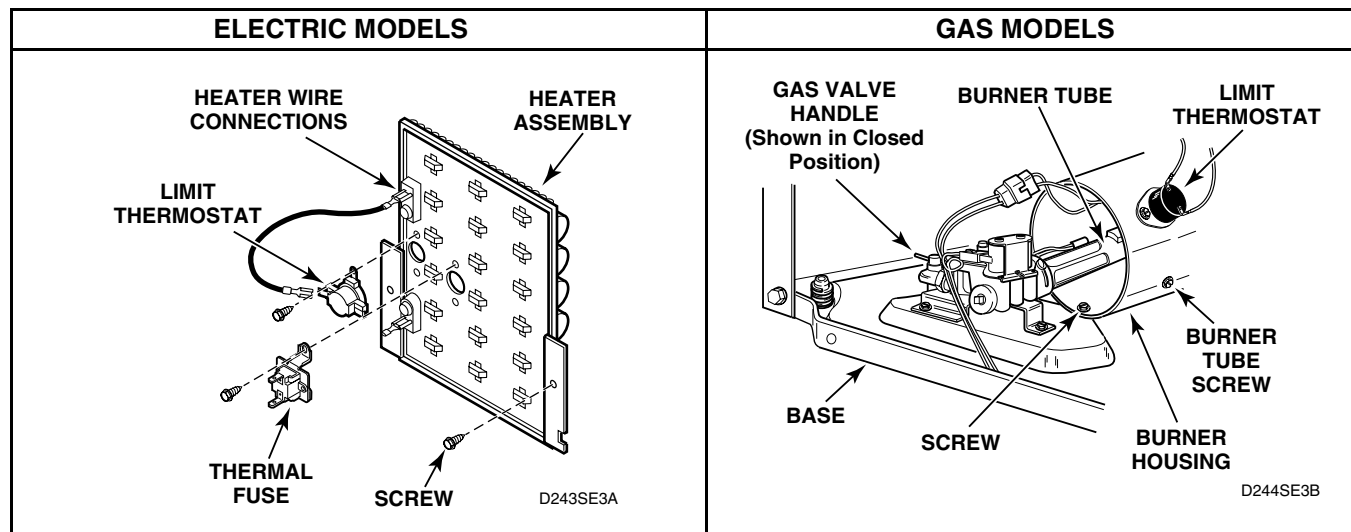

Figure 25
- (1) Remove one screw from right side of burner housing holding burner tube in place. Refer to *Figure 25*.
- d. Remove screw from right side of burner housing, while holding burner tube in place. Refer to *Figure 25*.
- Remove screw holding front of burner housing to dryer base and remove housing out through front of dryer. Refer to *Figure 25*.
- Disconnect wires and remove screws holding limit thermostat to burner housing (gas models) or element plate (electric models). Refer to *Figure 25*.
- Remove two screws holding element and plate to heater box and remove element and plate out through front of dryer. Refer to *Figure 25*.
- Disconnect wires from element and plate. Refer to *Figure 25*.